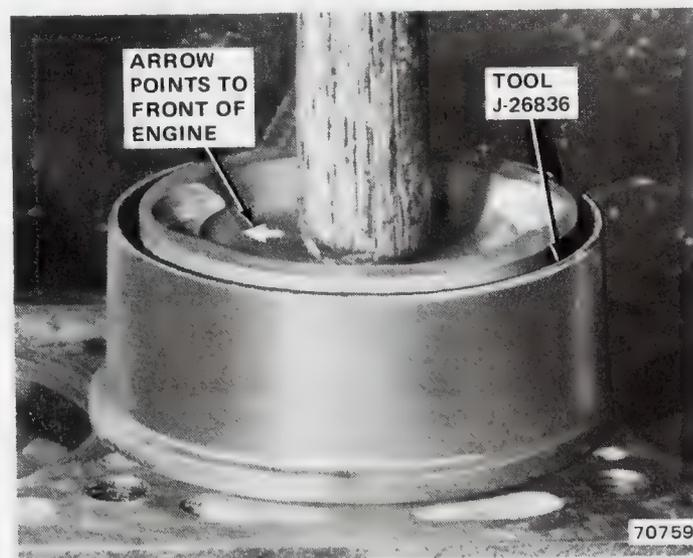

Fig. 1B-42 Piston Installation
- (1) Clean cylinder bores thoroughly. Apply light film of clean engine oil to bores with clean, lint-free cloth.
- (2) Position piston rings on pistons. Refer to Piston Rings for installation procedure.
- (3) Lubricate piston and rings with clean engine oil.
- (4) Use Piston Installer J-26836 to install connecting rod and piston assemblies through top of cylinder bores (fig. 1B-42). Arrow on piston top faces forward.
- (5) Install connecting rod bearing caps and inserts. Observe cylinder number markings made earlier. Also observe projections on connecting rod and cap. These projections must face front of engine (fig. 1B-43).
- (6) Install oil pan. Refer to Oil Pan for procedures.
- (7) Install cylinder head. Refer to Cylinder Head for procedures.